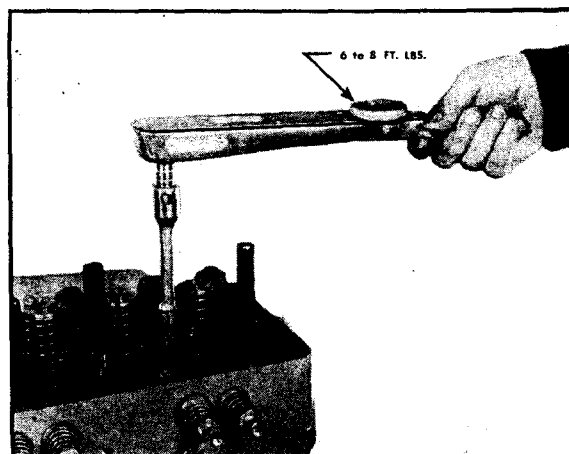

Fig. 12-49. Tightening injector hold down nuts
5. Install the injector hold-down nuts. It is necessary that these nuts be tightened evenly. Hold a socket wrench with a knurled handle directly above the nut so that no leverage can be applied or tighten to 6 to 8 foot-pounds with a torque wrench. Tightening these nuts to excess will distort the valve seats and crack the cylinder heads. Fig. 12-49.